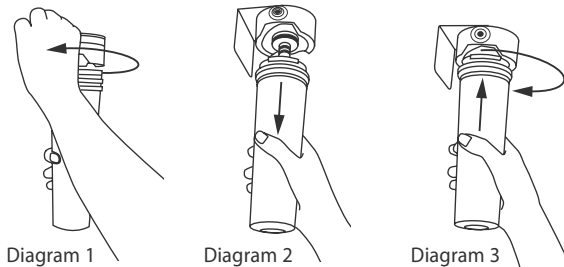

Fig.22 Changing the water filter cartridge
- 2 Pull the cartridge away from the filter head (down when installed in the recommended orientation) as shown in Diagram 2 of Fig 22 below.